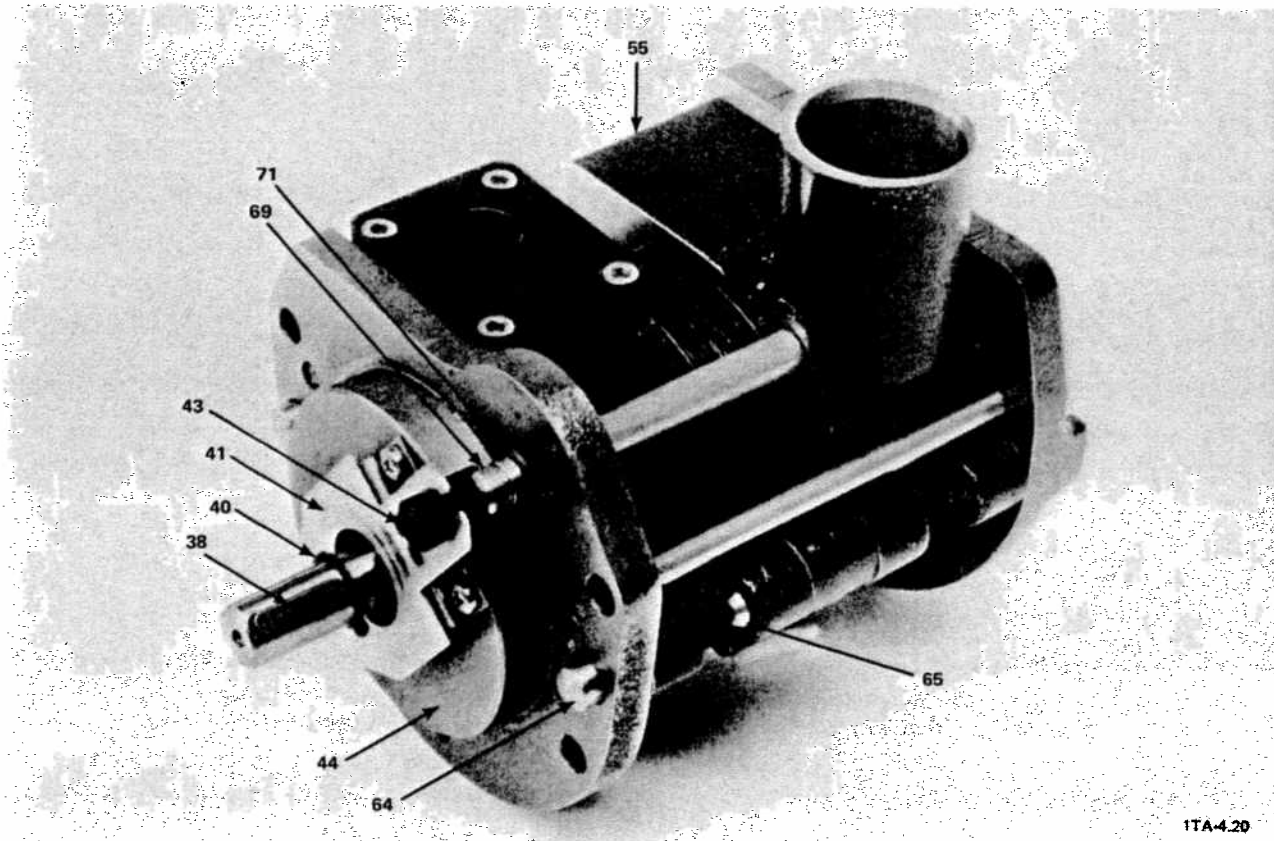

Figure 5-4. Front End of Module Minus Coupling and Centrifugal Switch (D2A Pump Model Shown)
- C-3** Using small diagonal cutting pliers, pull the coupling key (38) from the slot in the shaft (see Figure 5-4).
- C-4** Using snap ring pliers, remove the retainer ring (40) from the shaft (see Figure 5-4).
- C-5 NOTE:** For use during reassembly, the centrifugal switch end with the split halves faces the coupling (37).
- C-6** Using a phillips screwdriver, unscrew and remove the two screws that attach the lever to the front end plate. When removing the lever (41), hold its opposite end down to avoid losing the spring (42) from the penetration in the front end plate (44). Remove the lever (41) and spring (42) from the plate (44) (see Figure 5-4).
- C-7** Using a small screwdriver, remove the retainer disk (71) from the slot in the air inlet (69) tube (see Figure 5-4).